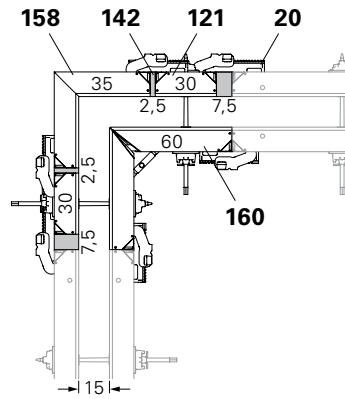

Fig. C2.01
- Wall thickness 15: Fig. C2.01